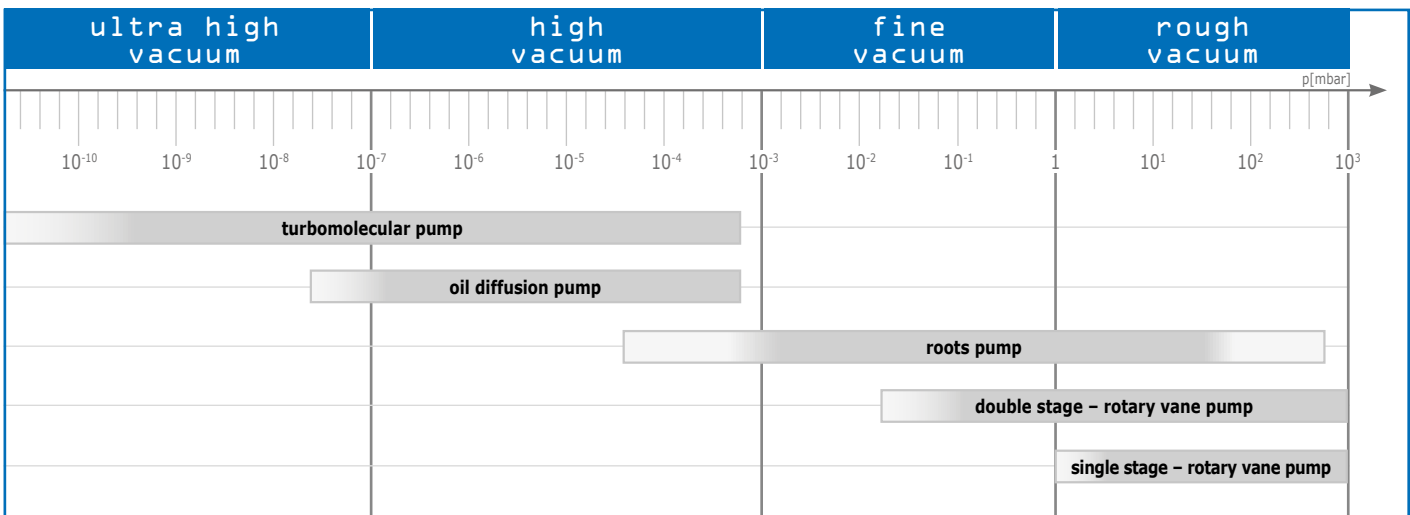

Figure 1
- Vacuum:** Pumps are configured and installed to achieve the working pressure required. (see Figure 1)